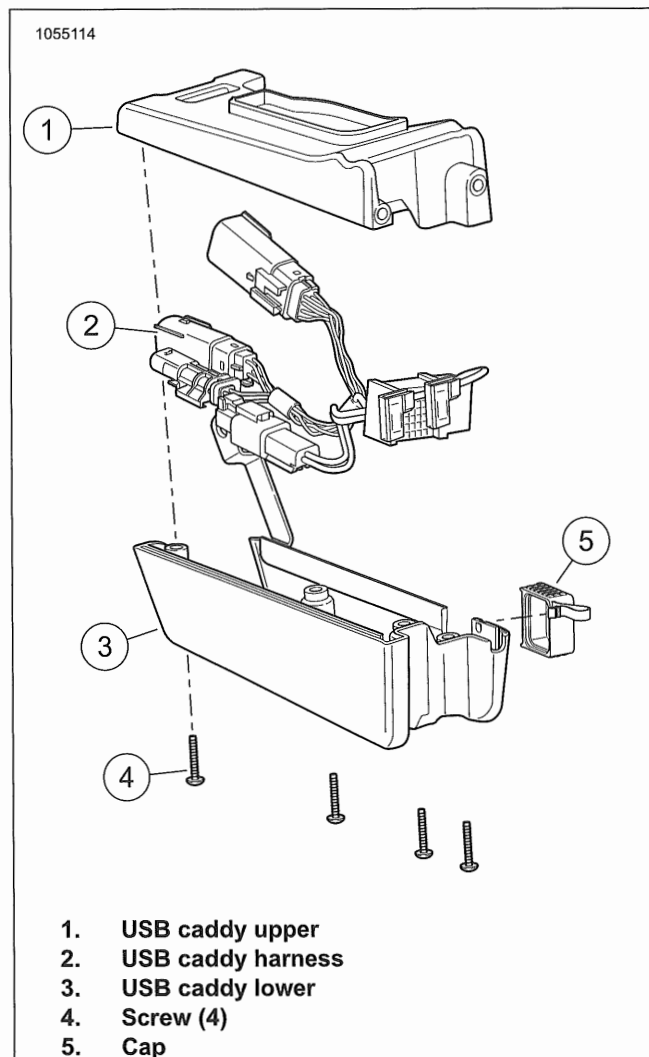

Figure 7-149. USB Caddy Assembly
2. See Figure 7-149 Separate USB caddy.
- a. Remove screws (4).
- c. Remove harness (2).
1. Figure 7-149. Assemble USB lower (3) and upper (1) caddy.
- a. Install harness (2) into lower USB caddy.
- c. Install screws (4). Tighten.